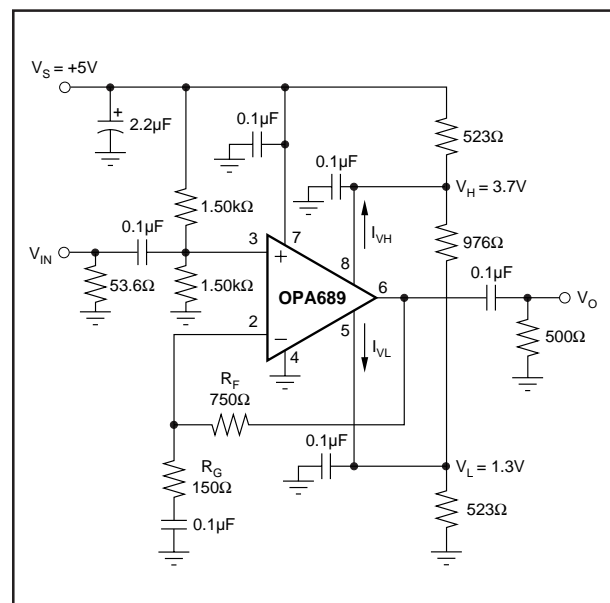

FIGURE 2. AC-Coupled, Single Supply Amplifier.
G = +6, $R_F = 750\Omega$, $R_L = 500\Omega$ tied to $V_{CM} = 2.5V$, $V_L = V_{CM} - 1.2V$, $V_H = V_{CM} + 1.2V$, (Figure 2 for AC performance only), unless otherwise noted.
NOTES: (1) Junction Temperature = Ambient Temperature for low temperature limit and 25°C guaranteed specifications. Junction Temperature = Ambient Temperature + 23°C at high temperature limit guaranteed specifications. (2) TEST LEVELS: (A) 100% tested at 25°C. Over temperature limits by characterization and simulation. (B) Limits set by characterization and simulation. (C) Typical value for information only. (3) Current is considered positive out of node. (4) CMIR tested as < 3dB degradation from minimum CMRR at specified limits. (5) I_{VH} (V_H bias current) is negative, and I_{VL} (V_L bias current) is positive, under these conditions. See Note 3 and Figures 2 and 7. (6) Limiter feedthrough is the ratio of the output magnitude to the sinewave added to V_H (or V_L) when $V_{IN} = 0$. (7) V_H slew rate conditions are: $V_{IN} = V_{CM} + 0.4V$, G = +6, $V_L = V_{CM} - 1.2V$, $V_H = \text{step between } V_{CM} + 1.2V \text{ and } V_{CM}$. V_L slew rate conditions are similar. (8) Linearity Guardband is defined for an output sinusoid ($f = 5\text{MHz}$, $V_O = V_{CM} \pm 1V_{p-p}$) centered between the limiter levels (V_H and V_L). It is the difference between the limiter level and the peak output voltage where SFDR decreases by 3dB (see Figure 8).
$G = +6$, $R_F = 402\Omega$, $R_L = 500\Omega$ tied to $V_{CM} = 2.5V$, $V_L = V_{CM} - 1.2V$, $V_H = V_{CM} + 1.2V$, (Figure 2 for AC performance only), unless otherwise noted.
Figure 2 shows an AC coupled, non-inverting gain amplifier for single supply operation. This circuit was used for AC
The OPA689 is nominally specified for operation using either $\pm 5\text{V}$ supplies or a single $+5\text{V}$ supply. The maximum specified total supply voltage of 13V allows reasonable tolerances on the supplies. Higher supply voltages can break down internal junctions, possibly leading to catastrophic failure. Single supply operation is possible as long as common mode voltage constraints are observed. The common mode input and output voltage specifications can be interpreted as a required headroom to the supply voltage. Observing this input and output headroom requirement will allow design of non-standard or single supply operation circuits. Figure 2 shows one approach to single-supply operation.
When the limiter voltages need to be within 2.1V of the supplies ($V_L \leq -V_S + 2.1V$ or $V_H \geq +V_S - 2.1V$), use low impedance voltage sources to set V_H and V_L to minimize errors due to bias current uncertainty. This will typically be the case for single supply operation ($V_S = +5V$). Figure 2 runs 2.5mA through the resistive divider that sets V_H and V_L . This keeps errors due to I_{VH} and $I_{VL} < \pm 1\%$ of the target limit voltages.